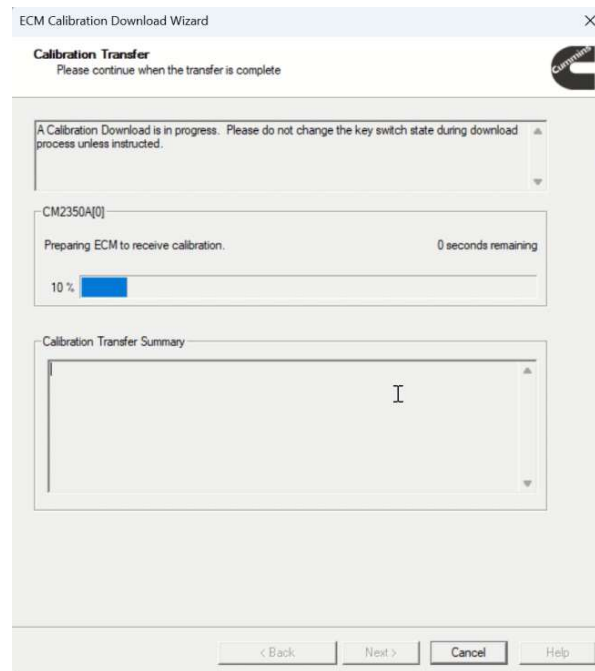

Figure 31
40. The programming sequence will take about 20 mins. There will be prompts to turn the ignition switch off and on throughout the programming sequence. See figure 31.